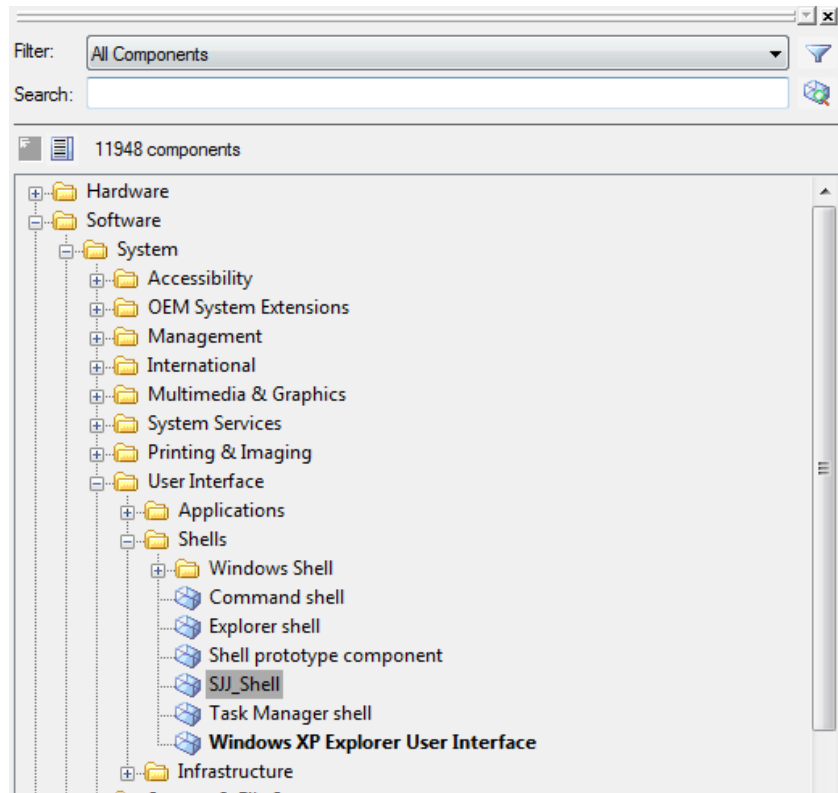

Figure 4-3 - SJJ_Shell in the Component Browser
3. Once the configuration has been created, navigate the component browser to the location of SJJ_Shell component, which can be found under Software->System->User Interface->Shells, Figure 4-3. You can alternatively search for the component.